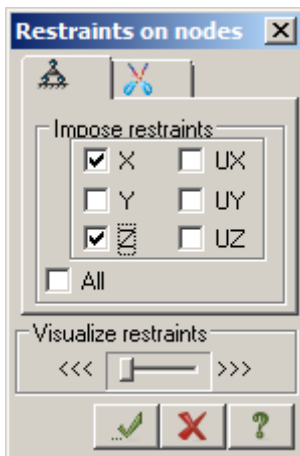

Figure 10.7 **Restraints on nodes** dialog box
- ⇒ In the **Restraints on nodes** dialog box (see Fig.10.7) specify directions along which displacements of nodes are not allowed (X, Z). To do this, select appropriate check boxes.